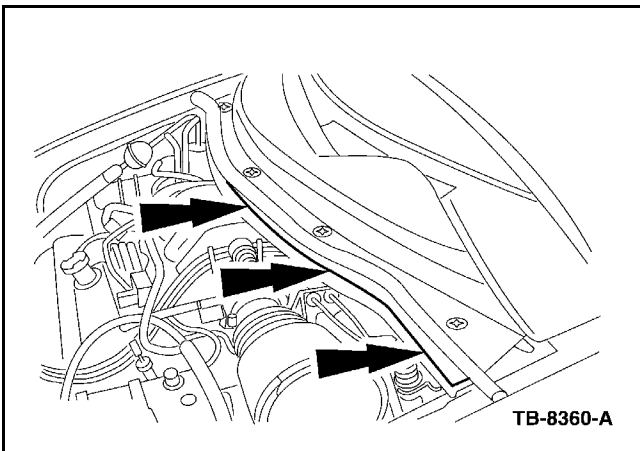

Figure 13 - Article 088-2005-5551
20. Add Clear Silicone Rubber (TA-32, or equivalent) to the front seam between the upper and lower cowl in the area above the transaxle (Figure 13).